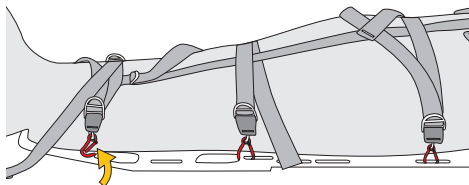

Fig.18
d) fasten the black straps (pelvis and legs) by hooking the connectors to the slots on the board and slightly tighten them using the buckles (figs. 18 e 19)